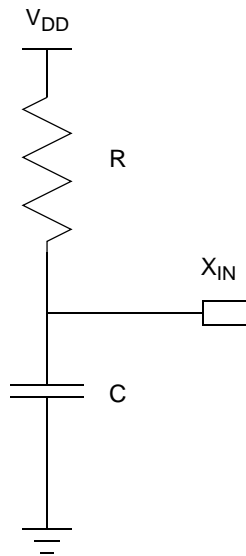

Figure 41. Connecting the On-Chip Oscillator to an External RC Network
The External RC oscillator mode is applicable to timing insensitive applications. Figure 41 illustrates a recommended configuration for connection with an external resistor-capacitor (RC) network.